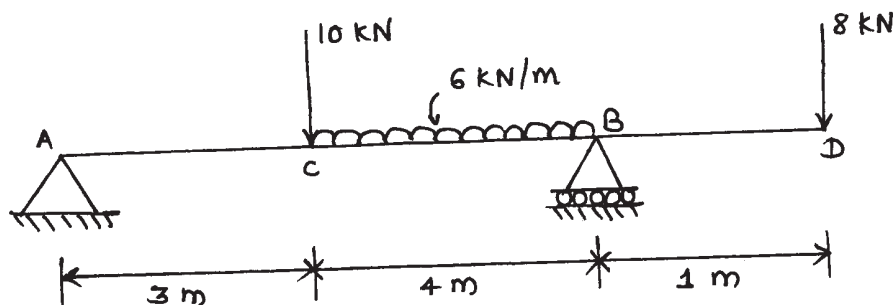

Figure No. 6
- a) Calculate the reaction of beam loaded as shown in Fig. No. 6.